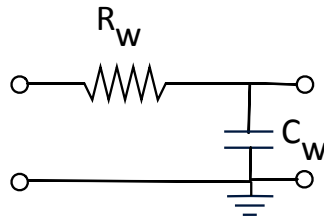

Figure 1: A suggested wire model.
- Why is the suggested model shown in Figure 1 for an on-chip wire segment with total resistance R_w and total capacitance C_w not useful for delay calculations? (1 p)